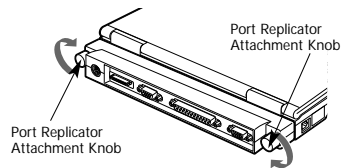

Figure 5-4 Securing the Connection
4. Turn the Port Replicator Attachment Knobs clockwise to secure the connection between the Port Replicator and the notebook. You may have to push the knob in slightly to engage the threads. (Figure 5-4.)